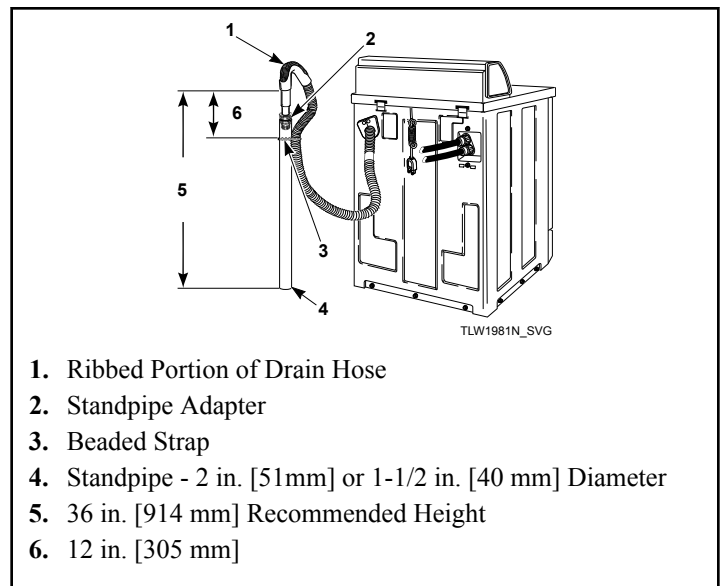

Figure 5
3. Remove the beaded strap from accessories bag and place around standpipe and drain hose, approximately 12 inches [300 mm] down from the top of pipe. Refer to Figure 5.